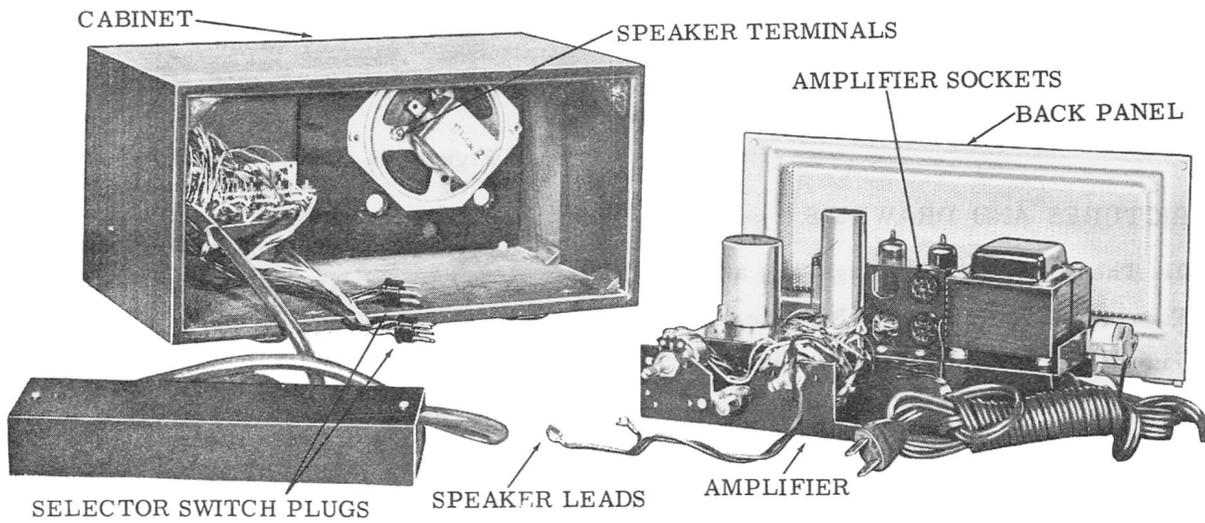

Figure 2. 1206 Disassembled
- Figure 2 1200-Series Disassembled